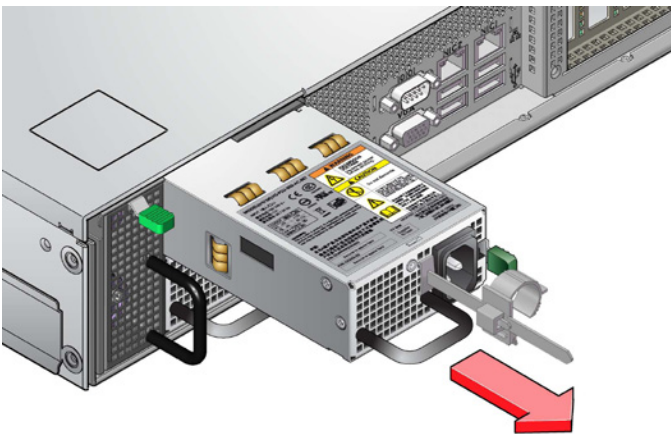

Fig. 32 - Removing a PSU (2)
4. Grip the handle and withdraw the PSU from the mounting cage (Fig. 32).